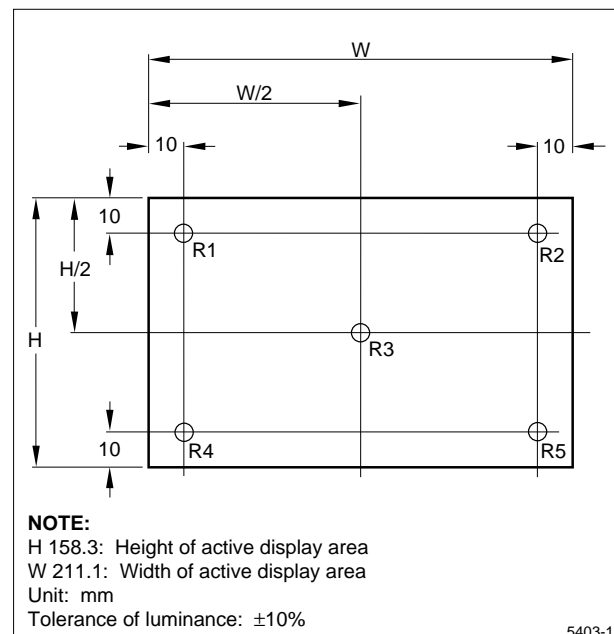

Figure 3. Luminance Measurements
1. Average luminance measured at the dots in circular windows (R1 to R5) shown in Figure 3. (Circular window diameter: $\phi 13\text{ mm}$). The following formula defines the luminance distribution:
where L_{MAX} is the maximum luminance and L_{MIN} is the minimum luminance taken at the five locations shown in Figure 3.